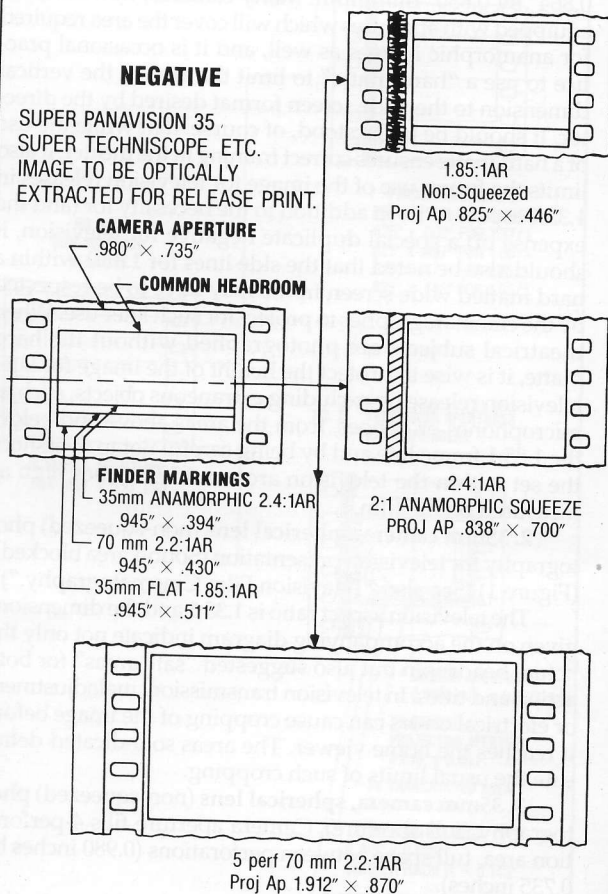

Figure 2.
A. Used for special effects duplication. No protection dimension given (image size depends on user). (Figure 2)
ration of release printing duplicate negative. Prints must be projected with an anamorphic lens. (Alternate finder markings are shown for 35mm "flat" and 70mm extraction. Note that all extractions use the same headroom. Television extraction is not fixed at this writing; alternate versions would crop sides and extend to the bottom of the camera aperture or use the same side lines and protect the area above the nominal headroom line. There have been minor variations on this system, and guidelines are under consideration for ultimate standardization of dimensions. Use of the system depends on capability and willingness of the laboratory to make the image extractions on the release printing duplicate negatives.) (Super Panavision 35 and Super Techniscope) (Figure 2) (See also "Special Systems.")
12. Proposed 35mm anamorphic projection systems using 1.5:1 squeeze and the conventional (ANSI PH22.195 Style B) anamorphic projection aperture for a 1.8:1 aspect ratio. Source camera negative would be VistaVision (Figure 8) or 35mm full aperture (Figure 2) from either of which a laboratory printing duplicate negative would be anamorphically printed; alternatively, 1.5:1 anamorphic lenses would be used on standard 35mm cameras.